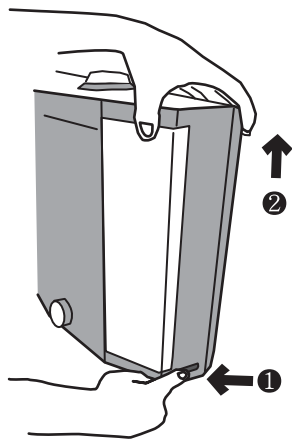

Fig. 1A
1. Open Both Filter Covers (Fig. 1A)